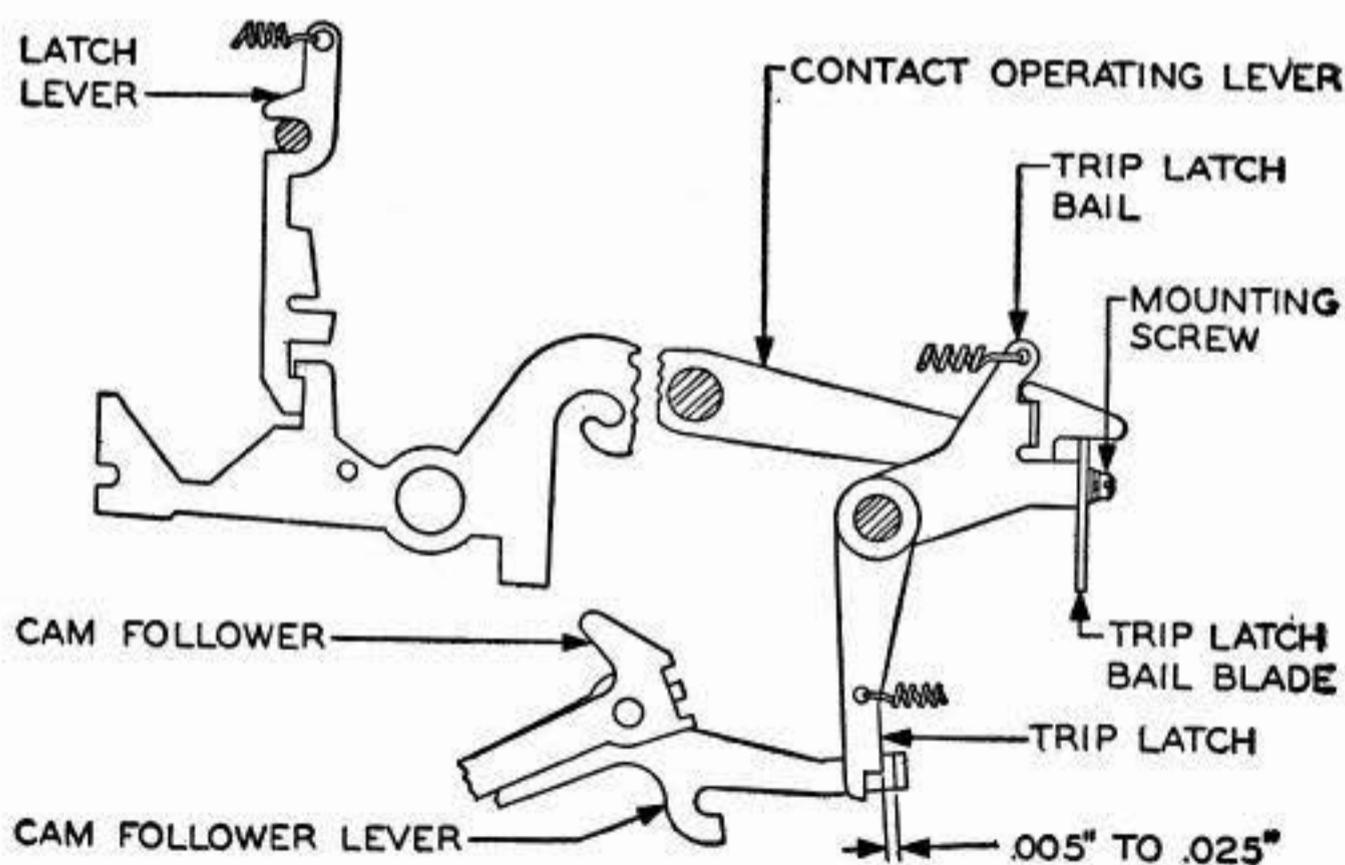

Fig 49
5.03 **Triplatch-Bail Blade:** With each one, in turn, of the 4 transmitter-start-operating levers (8-11, inclusive) in its latched position and with the cam follower on the low part of its cam, there should be a clearance of Min .005", Max .025", between the triplatch and the end of the cam follower at the closest point. To be sure that the closest point is gauged, move the follower manually through its entire travel, holding the auxiliary latch out of the way. **Fig 49**